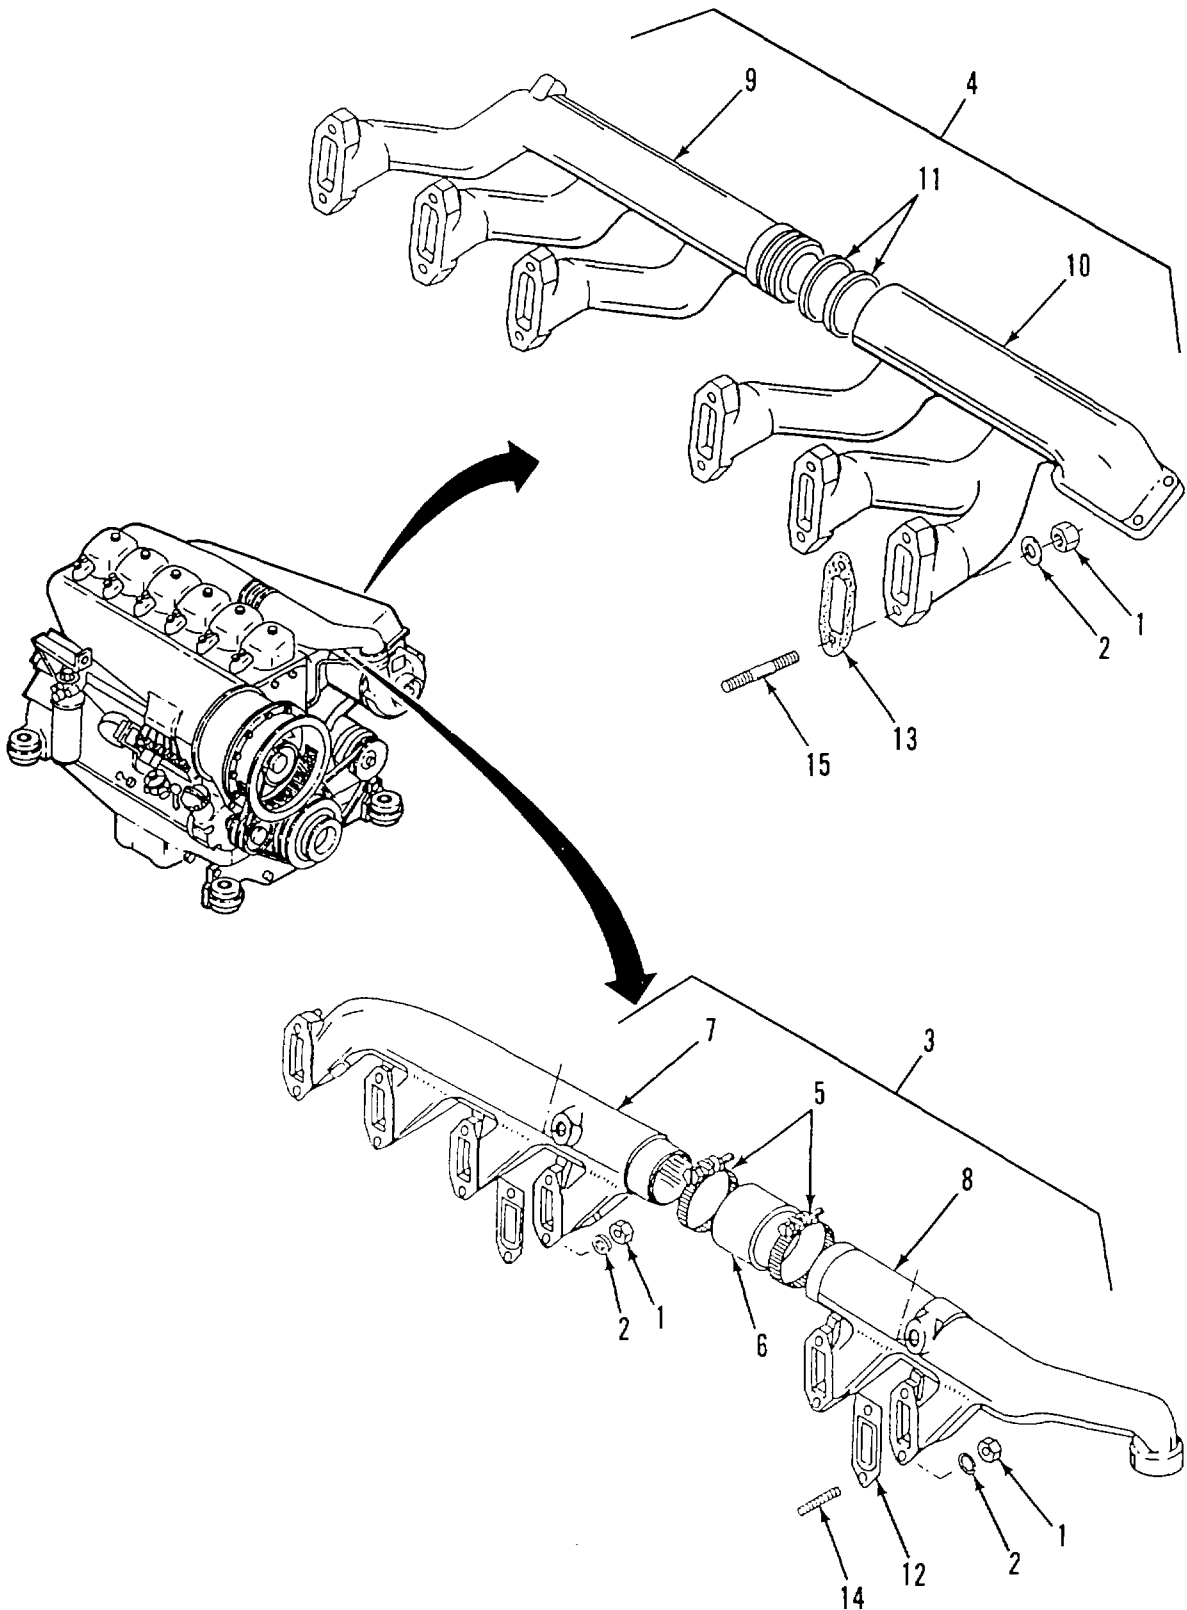

Figure 3-22. Intake and Exhaust Manifolds
a. REMOVE. (Figure 3-22)
- (1) Remove nuts (1) and flat washers (2) holding the intake and exhaust manifolds (3 and 4) to the cylinder heads. Remove both manifolds together.
- (2) Loosen hose clamps (5) at rubber sleeve (6) and separate intake manifold sections (7 and 8).
- (3) Separate exhaust manifold sections (9 and 10). Remove compression rings (11).
- (4) Remove gaskets (12 and 13).